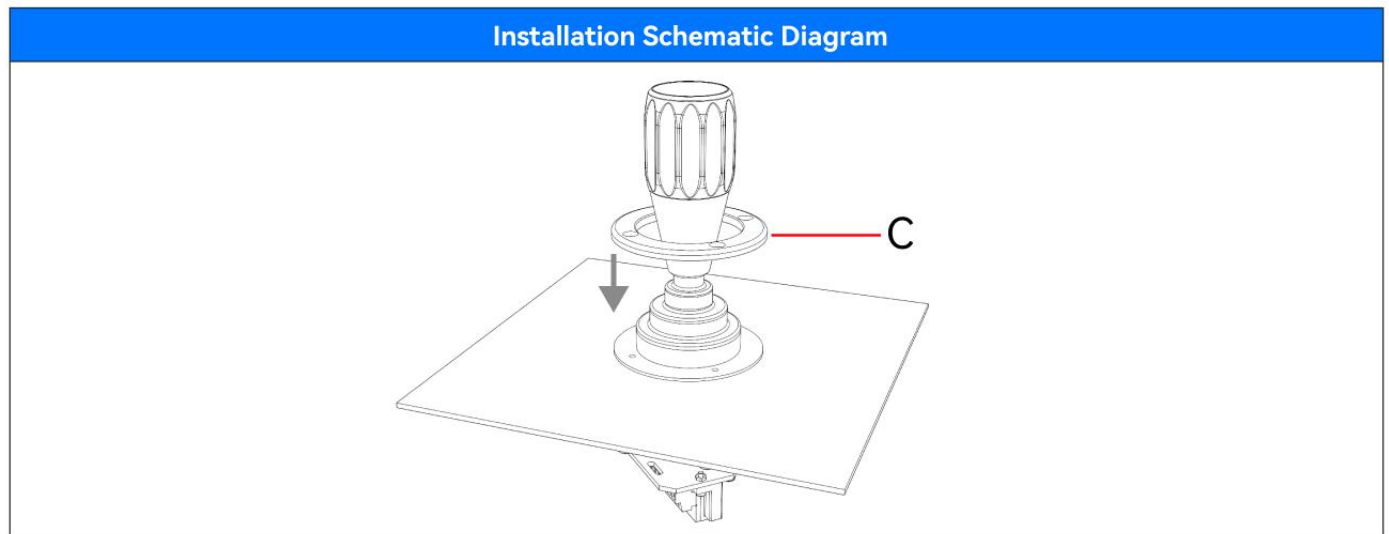

Figure3.2
2. As shown in Figure 3.2, pass the pressure ring C through the control lever and press it onto the top of the protective sleeve, aligning it with the screw hole.